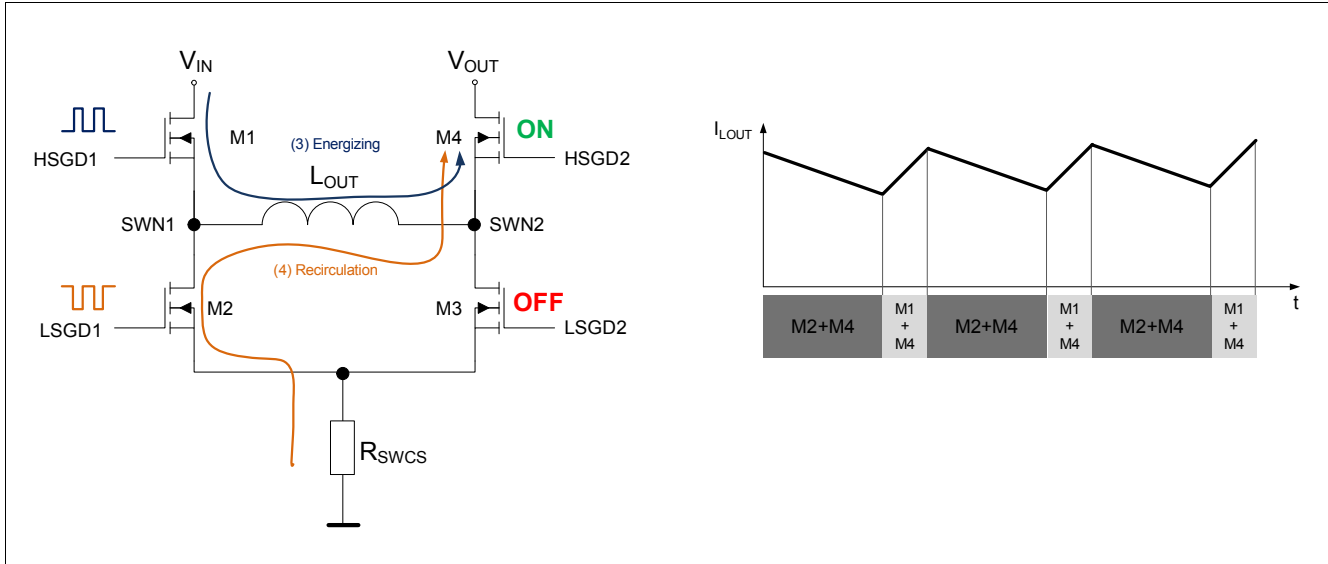

Figure 14 4 switches H-Bridge architecture in BUCK mode
- Switches M1 and M2 alternate, behaving like a typical synchronous BUCK Regulator (see Figure 14)